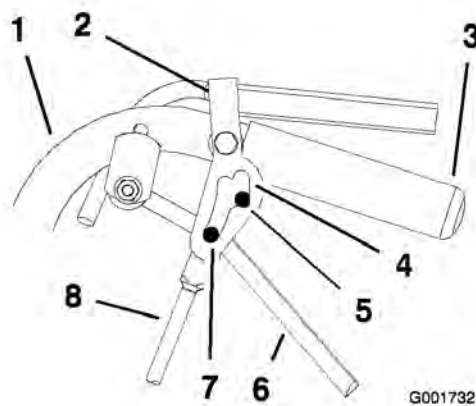

Figure 54
5. Release and engage neutral lock checking that the tire does not rotate (Figure 54). Continue this process until the tire does not rotate.